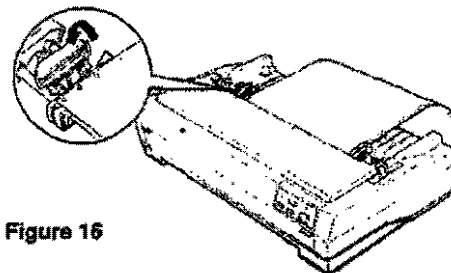

Figure 16
3. Fit three holes on both edges of the paper over the pins of the sprocket units as shown in the printer diagram. Make sure you use the same range of holes on both paper edges. Make sure the paper is not crooked or wrinkled and then close the sprocket covers (Figure 16).